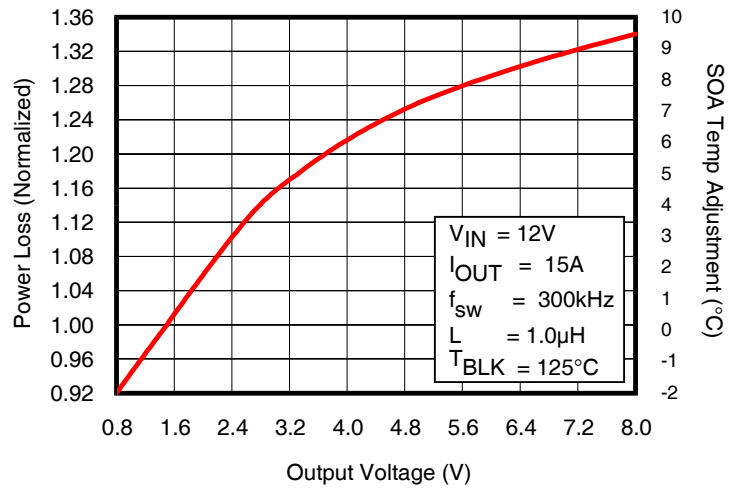

Fig. 5: Normalized Power Loss vs. V_{OUT}
- (Fig. 5) Normalized power loss for output voltage ≈ 0.97
- (Fig. 5) Normalized SOA Temperature for output voltage $\approx -0.75^{\circ}C$